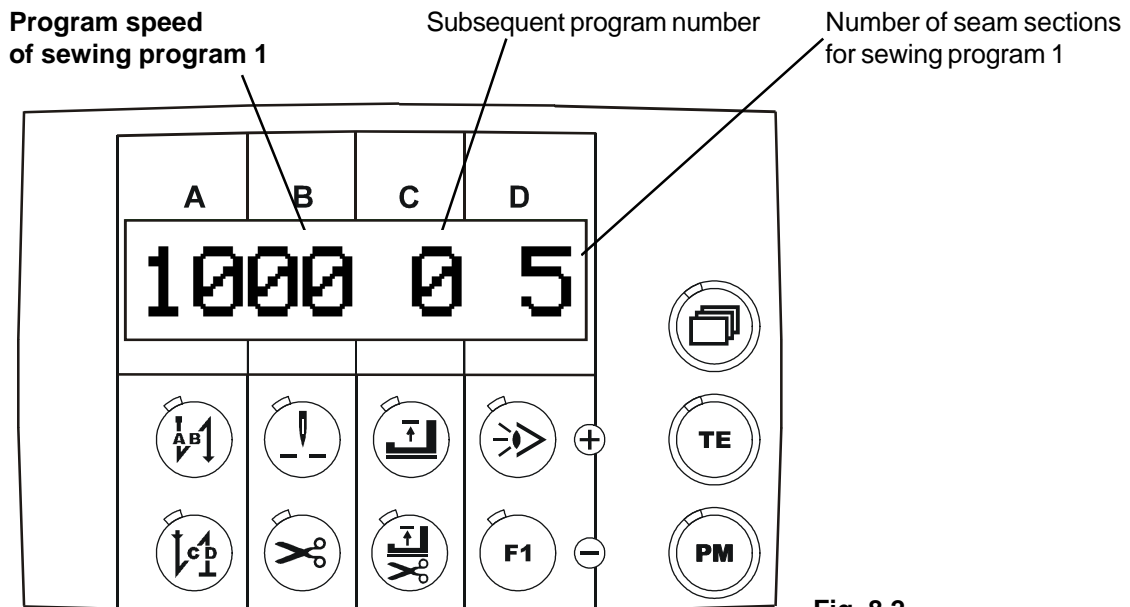

Fig. 8.2
- 2.2 Press the paging key until the display **Fig. 8.2** appears